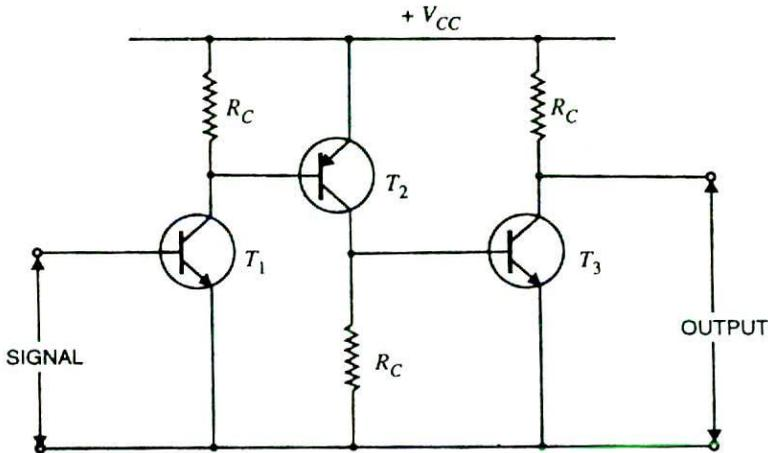

Fig. 13.17
**Circuit details.** Fig. 13.17 shows the circuit of a three-stage direct-coupled amplifier. It uses